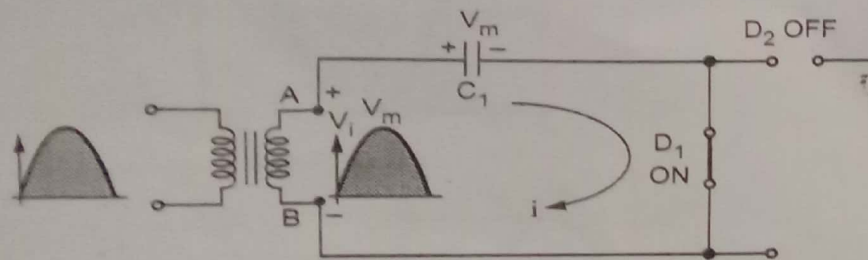

Fig. Q.51.2
- The capacitor C_1 will get charged equal to V_m as shown in the Fig. Q.51.2.